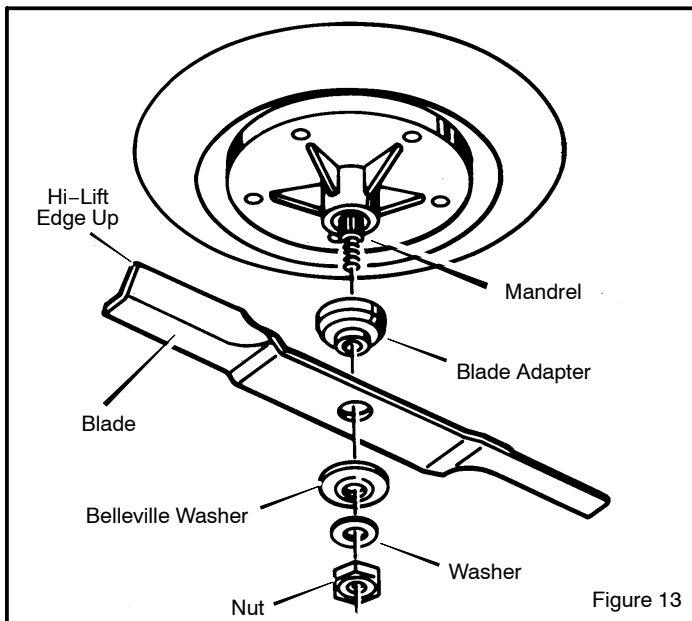

Figure 13
3. Remove the **nut** that holds the blade (Figure 13).
6. Mount the **blade** and **blade adapter** on the **mandrel** (Figure 13).